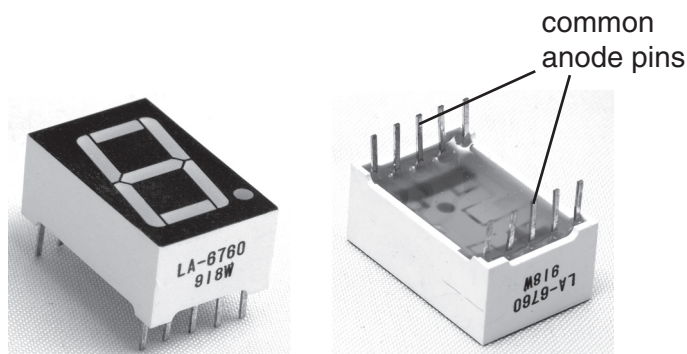

Fig. 7
- (iii) Details of the display to be used are shown in Fig. 7.